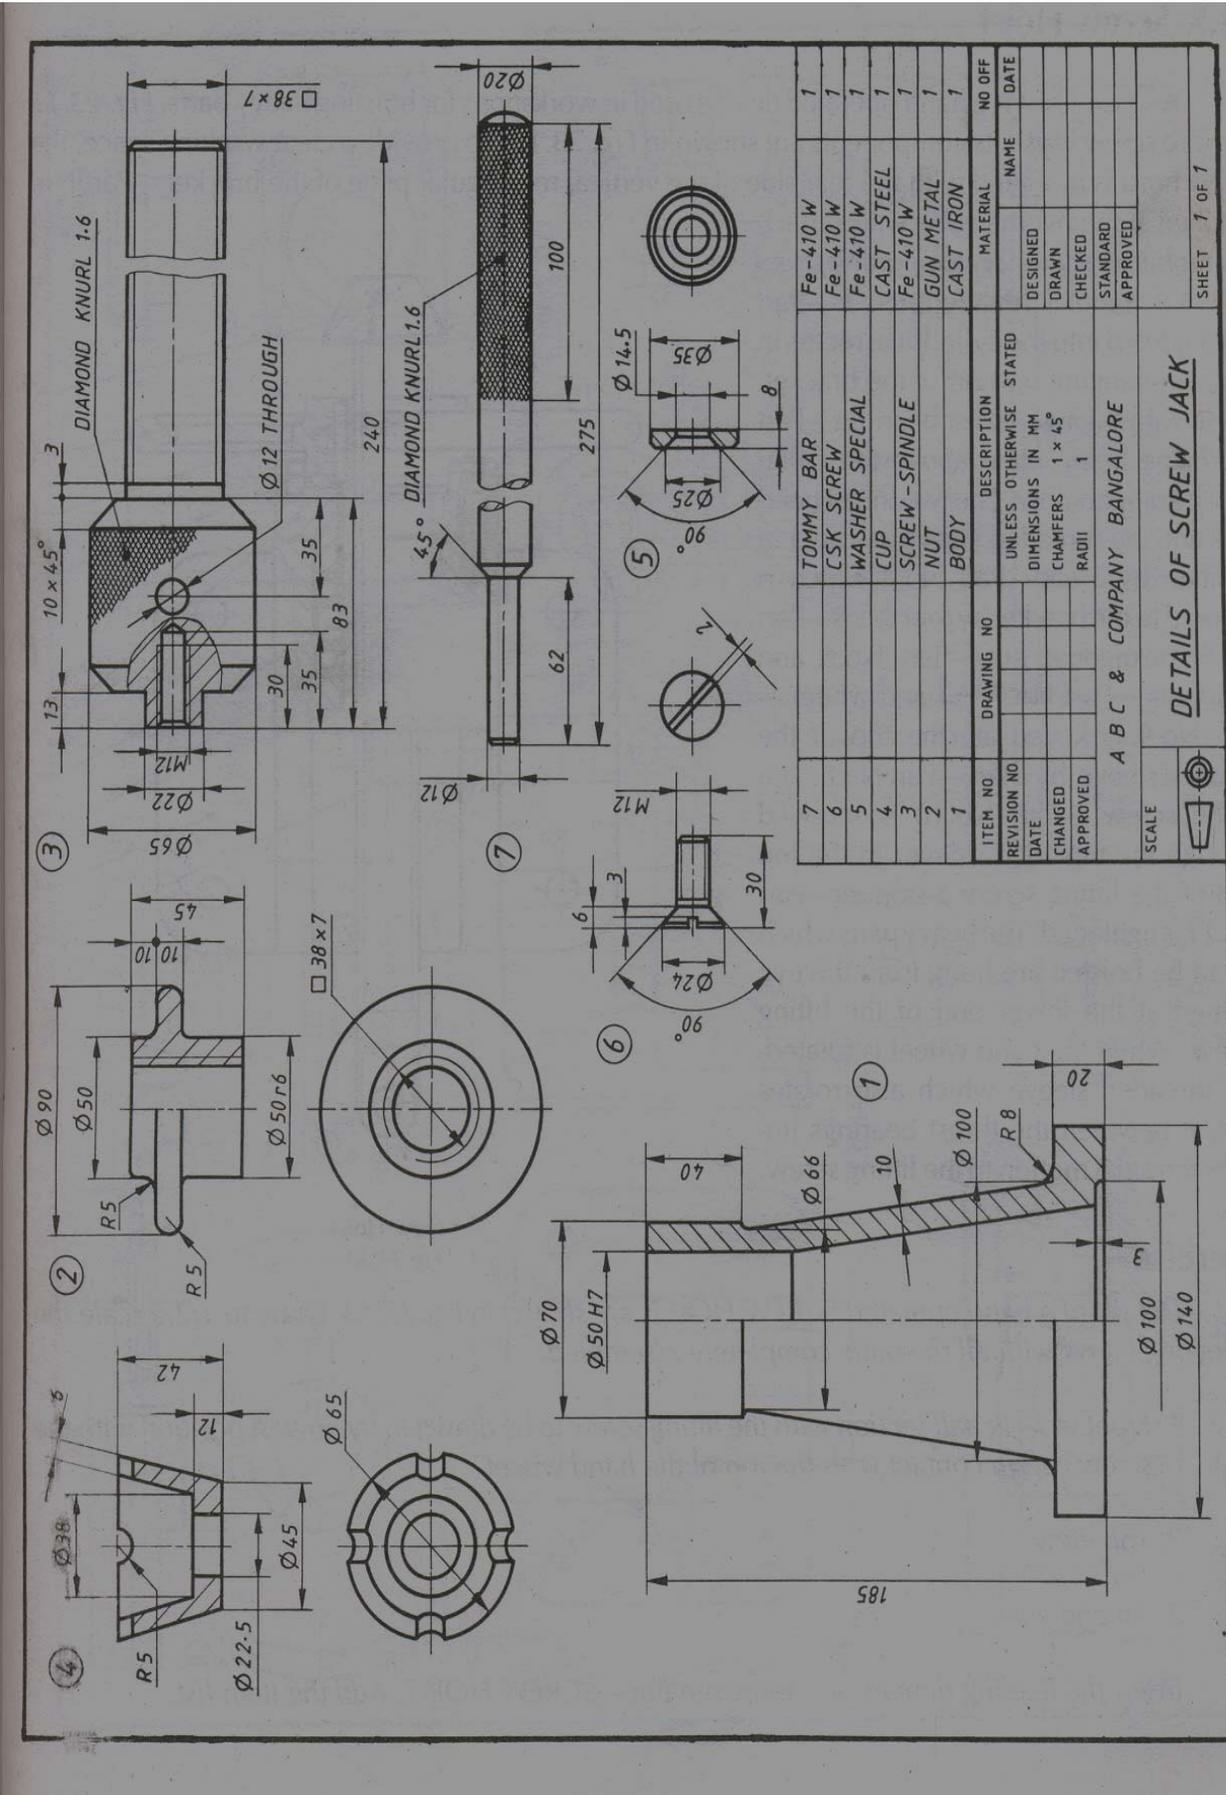

FIG. 2. Details of Screw Jack
- b) Assemble the parts of a Screw Jack shown in Fig. 2 and draw the half sectional front view of the Screw Jack.